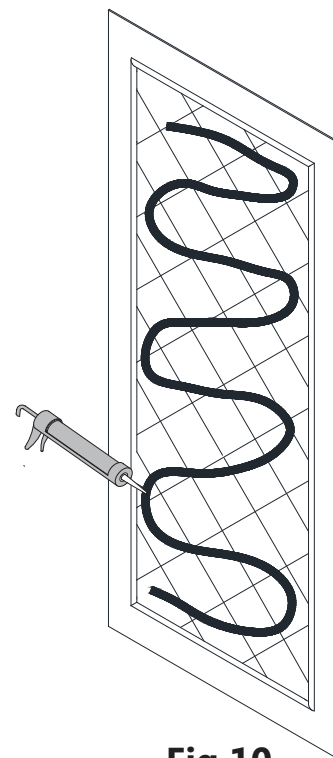

Fig 10
10. Apply adhesive to the entire back surface of the left **Back Panel (#02)**. **(Fig 10)**